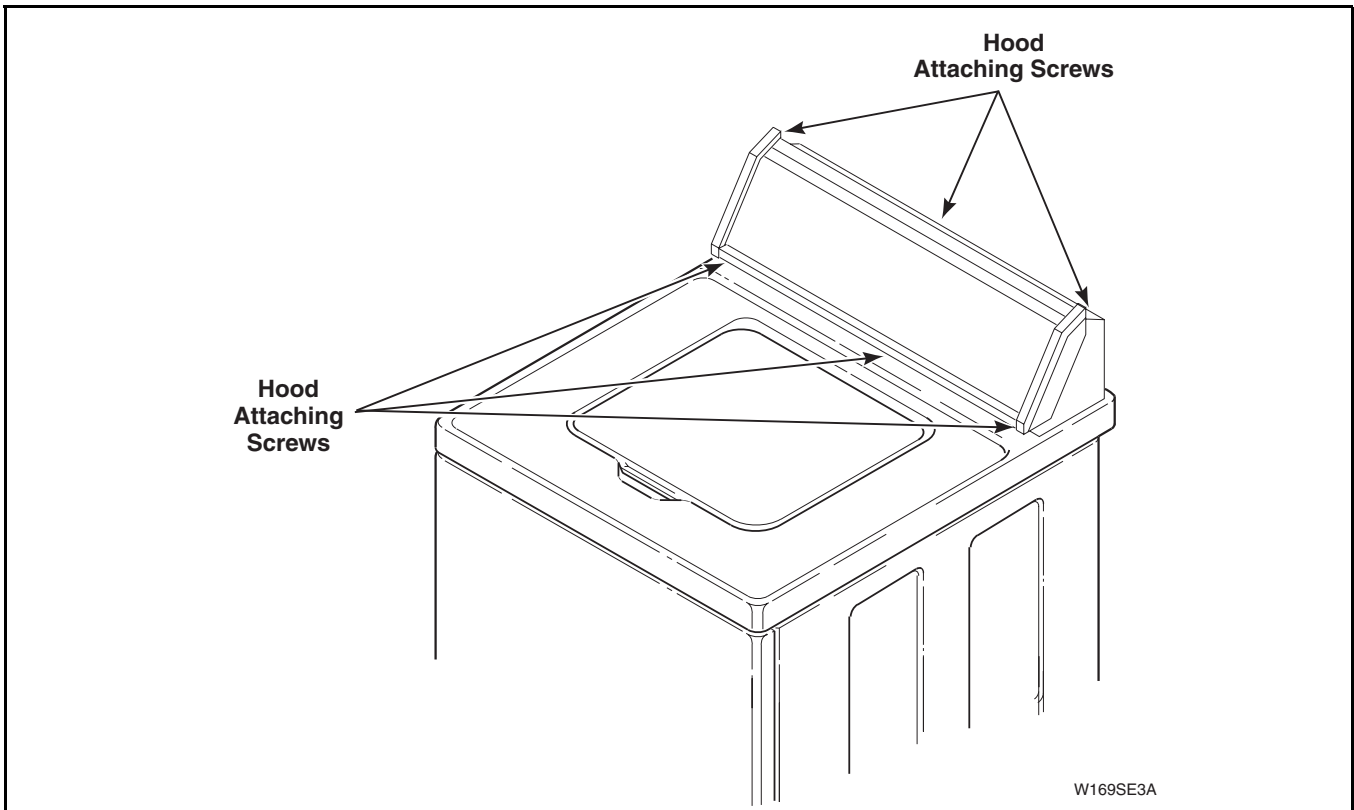

Figure 27
- b. Remove six screws (3 on top and 3 at lower front) holding hood assembly to control hood rear panel and cabinet top. Refer to *Figure 27*.
- a. Remove six screws (3 on top and 3 at lower front) holding hood assembly to control hood rear panel and cabinet top, then set hood assembly on cabinet top on protective padding. Refer to *Figure 27*.